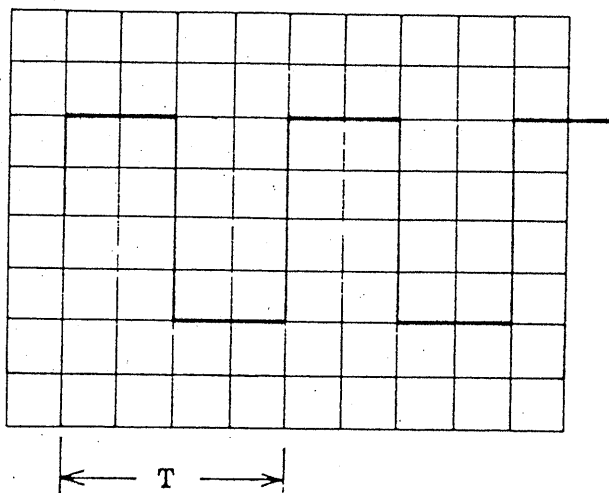

Figure 18
Apply to the X-axis a known frequency from a signal generator (SG) and to the Y-axis the frequency to be measured. So adjust the required controls that a pattern is displayed on the full surface of the CRT screen. Then so adjust the frequency of the signal generator that the displayed pattern becomes stationary as shown in Figure 18. From the displayed waveform, the unknown frequency can be calculated as follows: